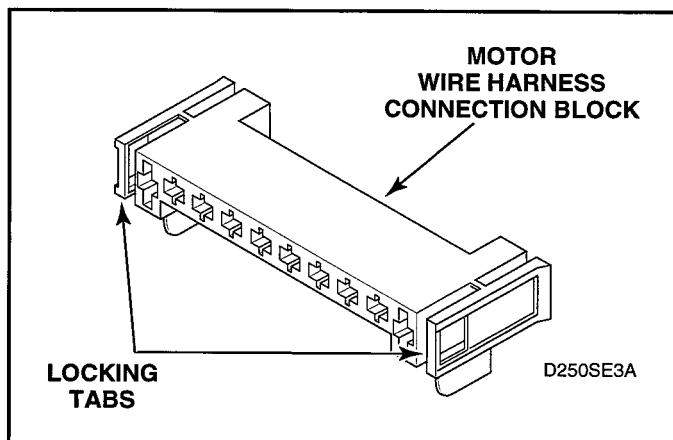

Figure 5-20
1. Disengage motor wire harness terminal block from the motor by pressing in on the movable locking tabs (located on each side of the terminal block) and pulling away from motor. See figures 5-20 and 5-21.